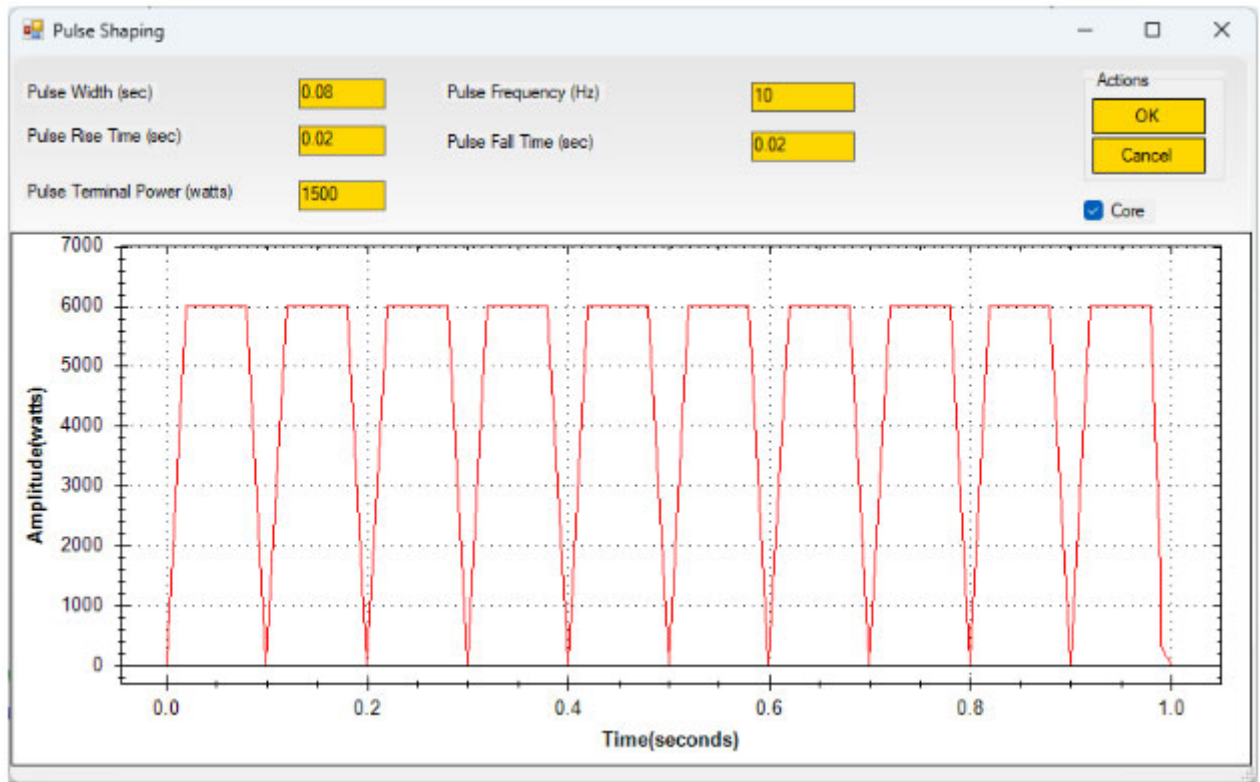

Figure 117: Pulse Shaping Visualization for a Single Beam Laser Welding Application
- On the right side of the Processing Parameters screen, click on the icon with three dots, as seen in Figure 116 (above). This displays the Pulse Shaping Visualization screen as shown in Figure 117 on page 132.